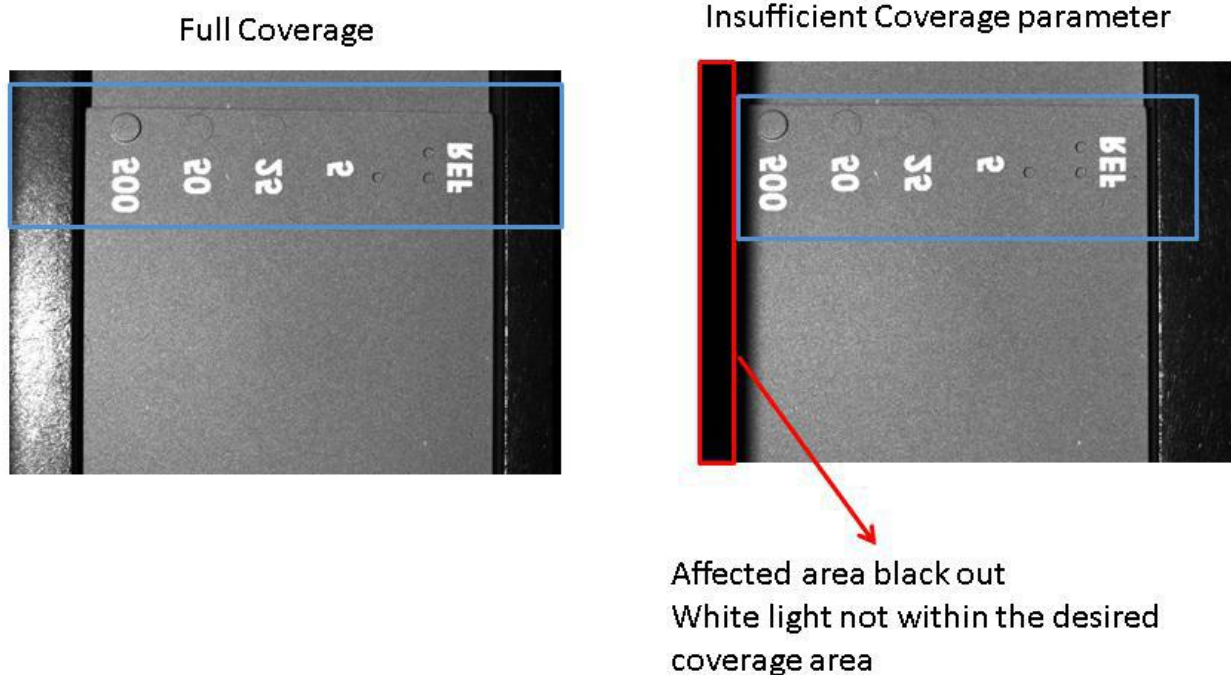

Figure 40 White Light Coverage area
38. Open StCamsWare and verify the white light projection image is within the desired coverage area as below Figure 40.